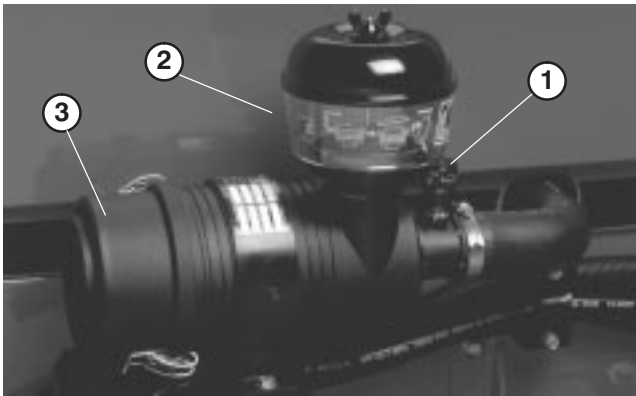

Figure 39
2. Service the air cleaner filters when ever air cleaner indicator (Fig. 39) shows red or every 400 hours (more frequently in extreme dusty or dirty conditions). Do not over service air filter.
SERVICING PRECLEANER BOWL (Fig. 39)
8. Reset indicator (Fig. 39) if showing red.